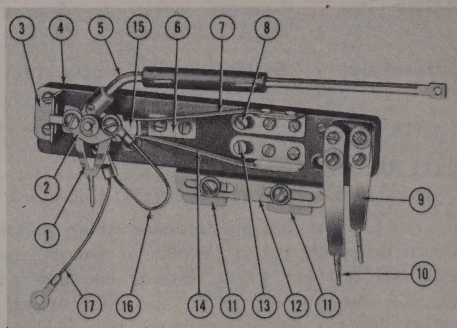

Figure 307 — Rocker Arm Mounting Block Assembly
WIPER ASSEMBLIES. (See figure 307.)
(7) DISASSEMBLE ROCKER ARM MOUNTING BLOCK ASSEMBLY. (See figure 307.)
(7) ROCKER ARM MOUNTING BLOCK ASSEMBLY. (See figure 307.)